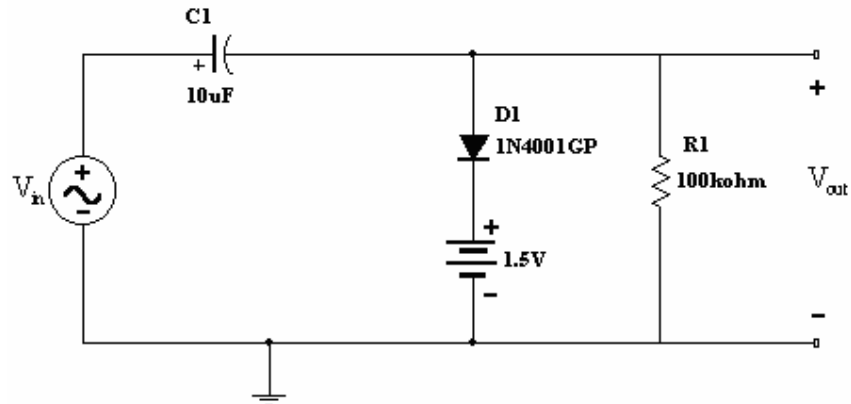

Fig.8: Clamper Circuit with DC Battery
17. Construct the circuit shown in Figure 8. Connect a 2 KHz, $10 V_{p-p}$ sine wave to the input and use the oscilloscope to observe the input and output signals.
18. Repeat step (14) for Figure 8.